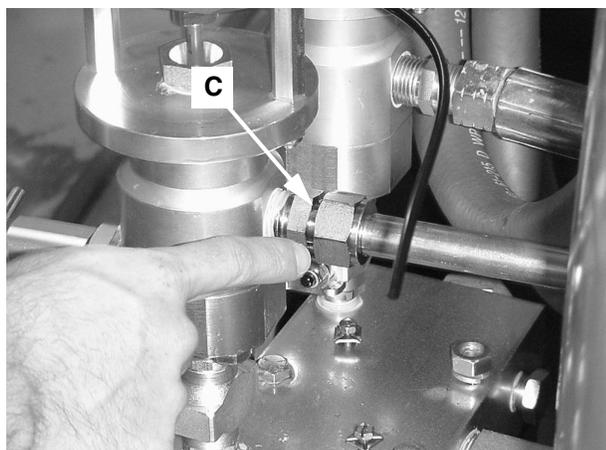

FIG. 4
5. Remove metering valve inlet fitting (C) from desired valve. FIG. 4.